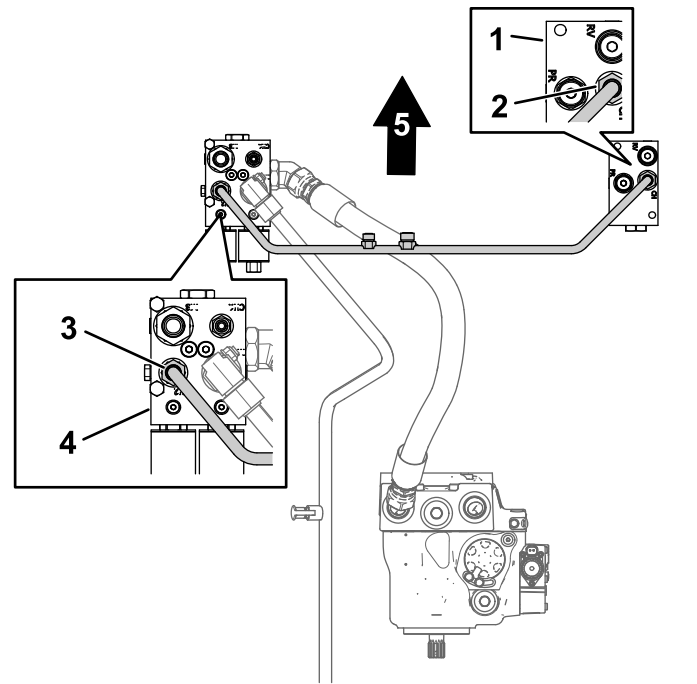

Figure 9
- Align the tube nuts for the cross-manifold tube to the fittings in the rear-traction manifold and the flow-divider manifold (Figure 9).